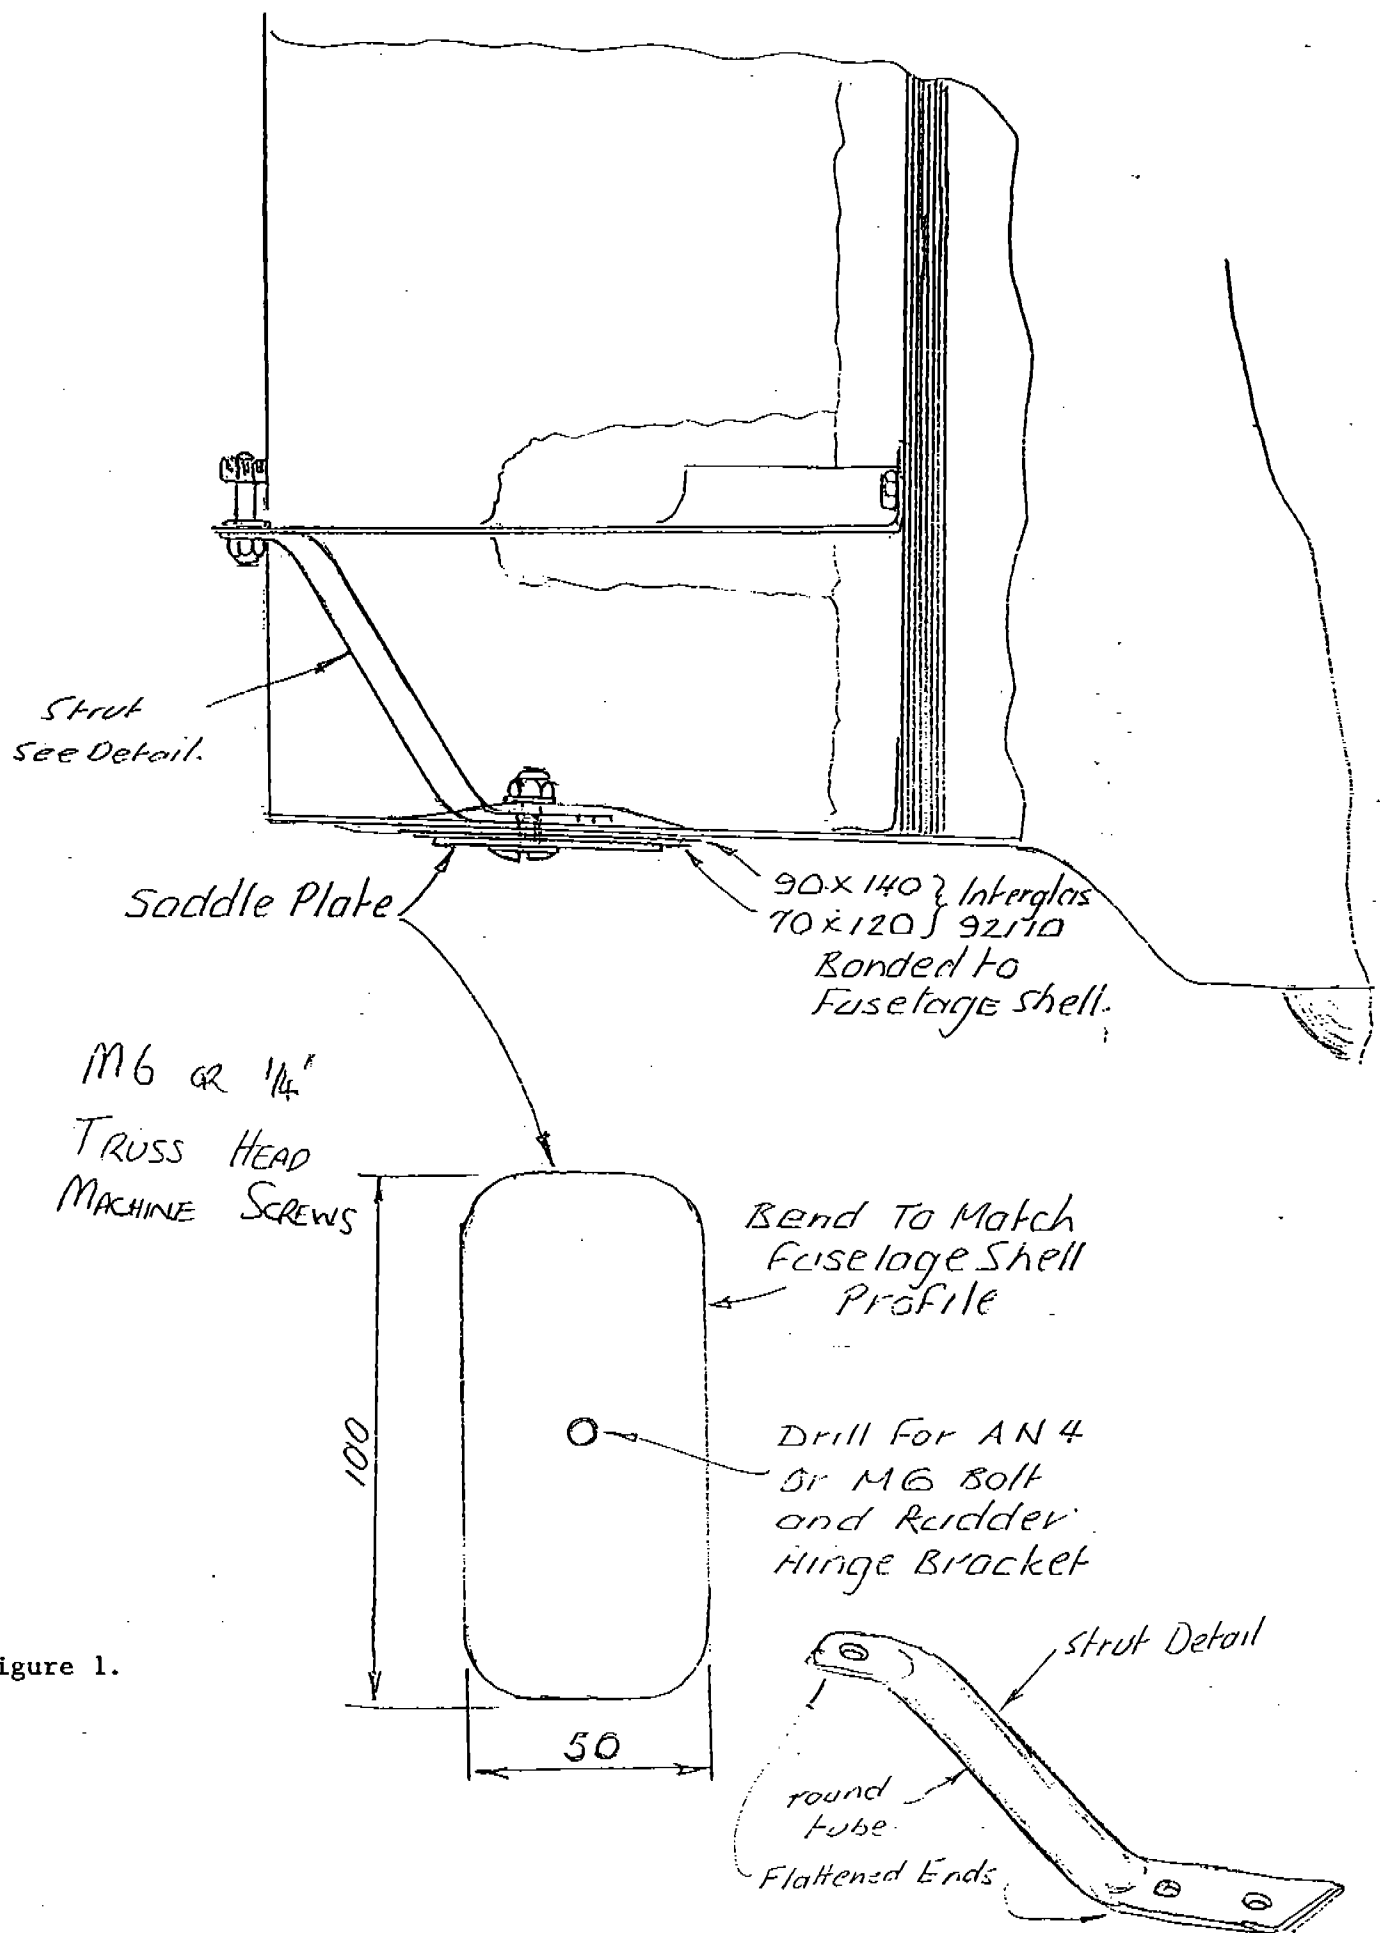

Figure 1.
5. Make up a saddle plate to the dimensions shown in figure 1. Use material 16.G (1.6 mm) stainless steel sheet A1.5.1 grade 304, 321 or 316 full hard temper or alternatively 4130 chrome molybdenum steel. Bend saddle plate to conform to fuselage shell.